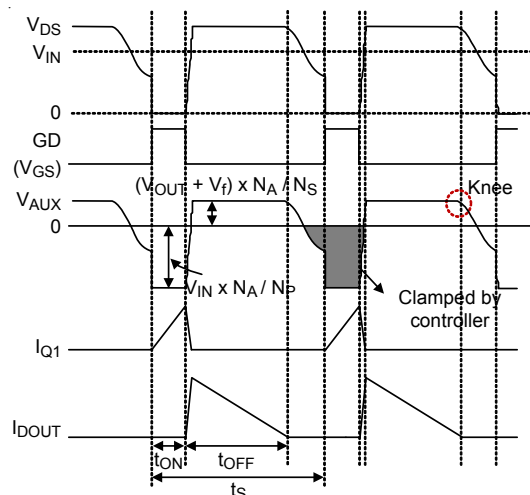

Figure 3. Key Waveforms of a Flyback Converter
The RT7302 needs no shunt regulator and opto-coupler at the secondary side to achieve the output current regulation. Figure 3 shows several key waveforms of a conventional flyback converter in Quasi-Resonant (QR) mode, in which VAUX is the voltage on the auxiliary winding of the transformer, tON is the conducting time of Q1, tOFF is the conducting time of DOUT, ts is a single switching period, NP is the turns number of primary winding and NS is the turns number of secondary winding. When the secondary side current IDOUT drops to zero, a knee point on VAUX can be detected and tOFF can be determined. The average output current (IOUT (t)) can be derived by :